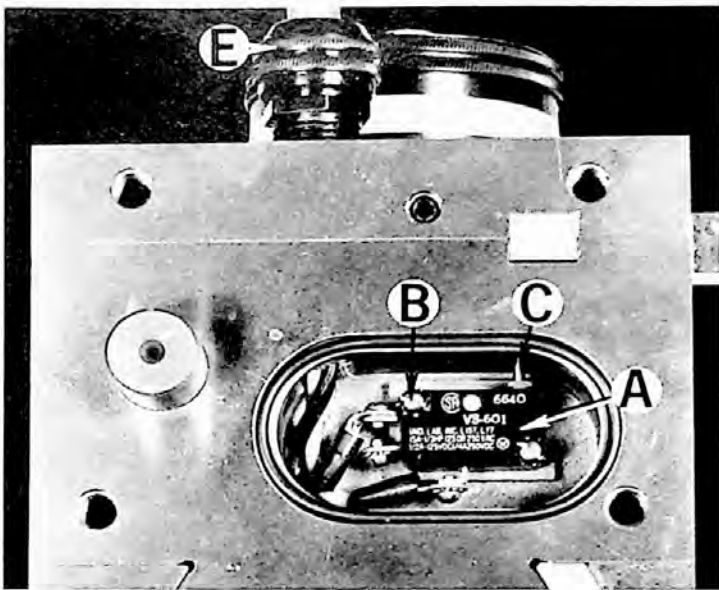

Figure 22 — Cycle Stop Micro Switch
4. Remove two screws "B", Figure 22, and, remove micro switch "A". Remove wires from micro switch.
3. Remove two screws "B", Figure 22, and remove micro switch "A". Remove wires from micro switch. Remove O-ring seal for micro switch.
4. Remove cable grip "E", Figure 22, and pull micro switch wires from chasing head.
18. Replace micro switch cable and cable grip "E", Figure 22. Replace O-ring for micro switch.